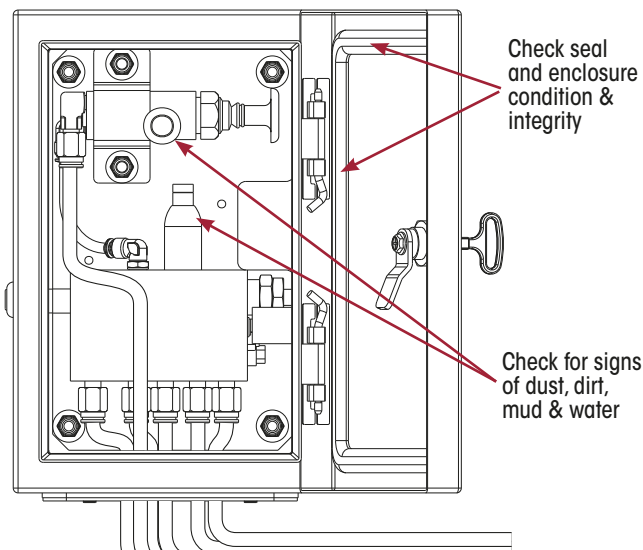

Figure 203: Inspect LACV & Enclosure
3. Check that the enclosure is clear of dirt and moisture. If necessary, vacuum or blow out dirt. Refer Figure 203.